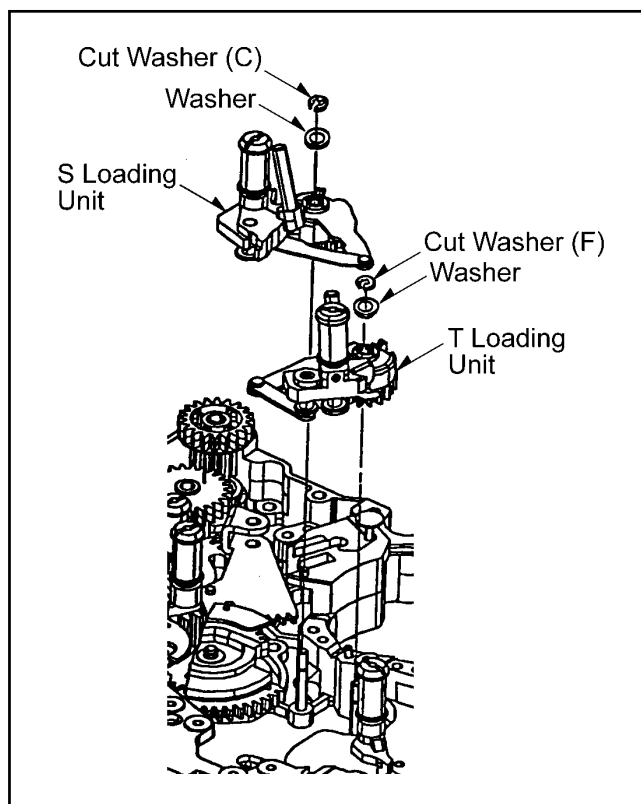

Figure 2-13-2
4. Unscrew the 4 screws (A) and 2 screws (B), and remove the Loading Guide.
5. Turn the Cam Relay Gear (B) to clockwise as shown in 2-13-1, and place the post to loading completion condition.
6. Remove the Cut Washer (C) and Washer as shown in figure 2-13-2, and remove the S Loading Unit.
2. Remove the Cut Washer (F) and Washer as shown in figure 2-13-2, and remove the T Loading Unit.